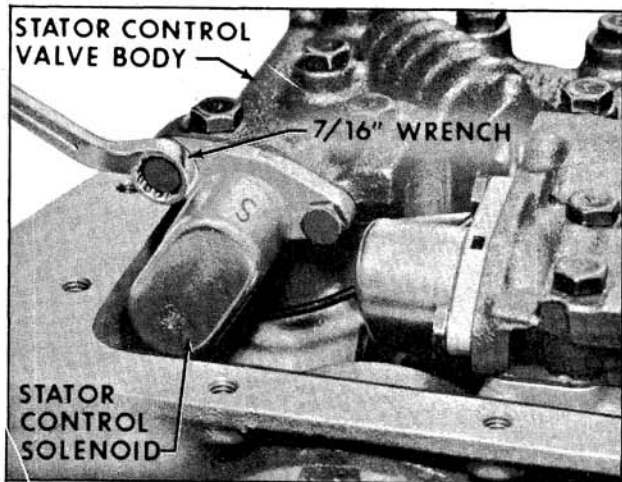

Fig. 6-352 Removing Solenoid
stator control solenoid for reassembly. (Fig. 6-352)
4. Remove two solenoid to stator control valve body retaining bolts with 7/16" wrench. Remove stator control solenoid gasket. (Fig. 6-352)